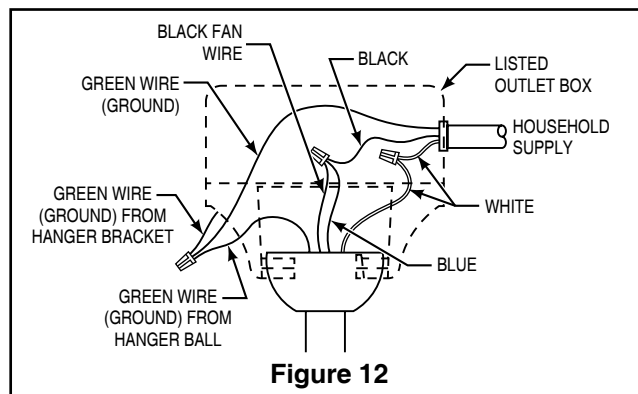

Figure 12
- ☐ 1. Connect the green grounding lead from the hanger ball and the green grounding lead from the hanger bracket to the supply grounding conductor (this may be a bare wire or wire with green colored insulation). Securely connect wires with wire connectors supplied. (Figure 12)
- ☐ 2. Securely connect the white fan motor wire to the white supply (neutral) wire using wire connector supplied. Securely connect the black fan motor wire and blue wire to the black supply wire using wire connector supplied. (Figure 12)